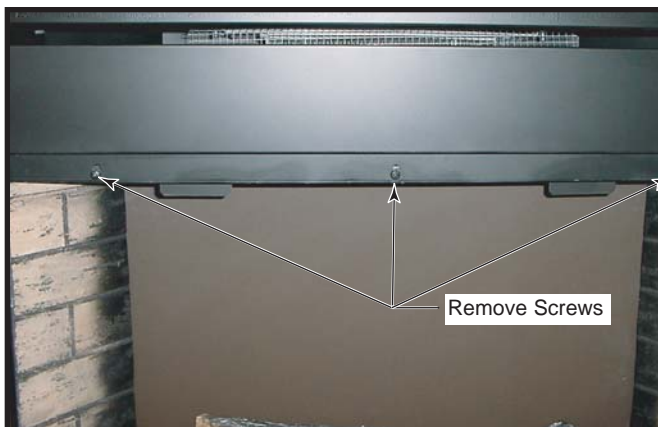
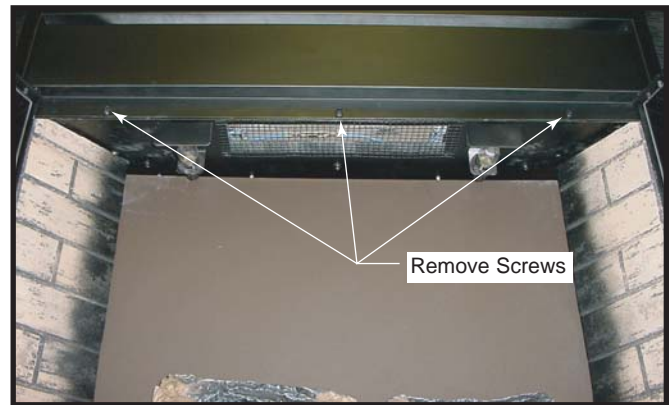

Fig. 3 Remove three (3) screws on front of unit.
Fig. 4 Remove three (3) screws located under top shelf.
4. Locate the screws that hold the front cover in place. There are six (6) screws, three (3) located on the front of the unit (Fig. 3), and three (3) located underneath the top shelf of the unit. (Fig. 4)
The motors used on the fan and the drum assembly are prelubricated for extended bearing life and require no further lubrication. However, periodic cleaning/vacuuming of the fan/heater and around the air intake, located under the top shelf (Fig. 4), is recommended.